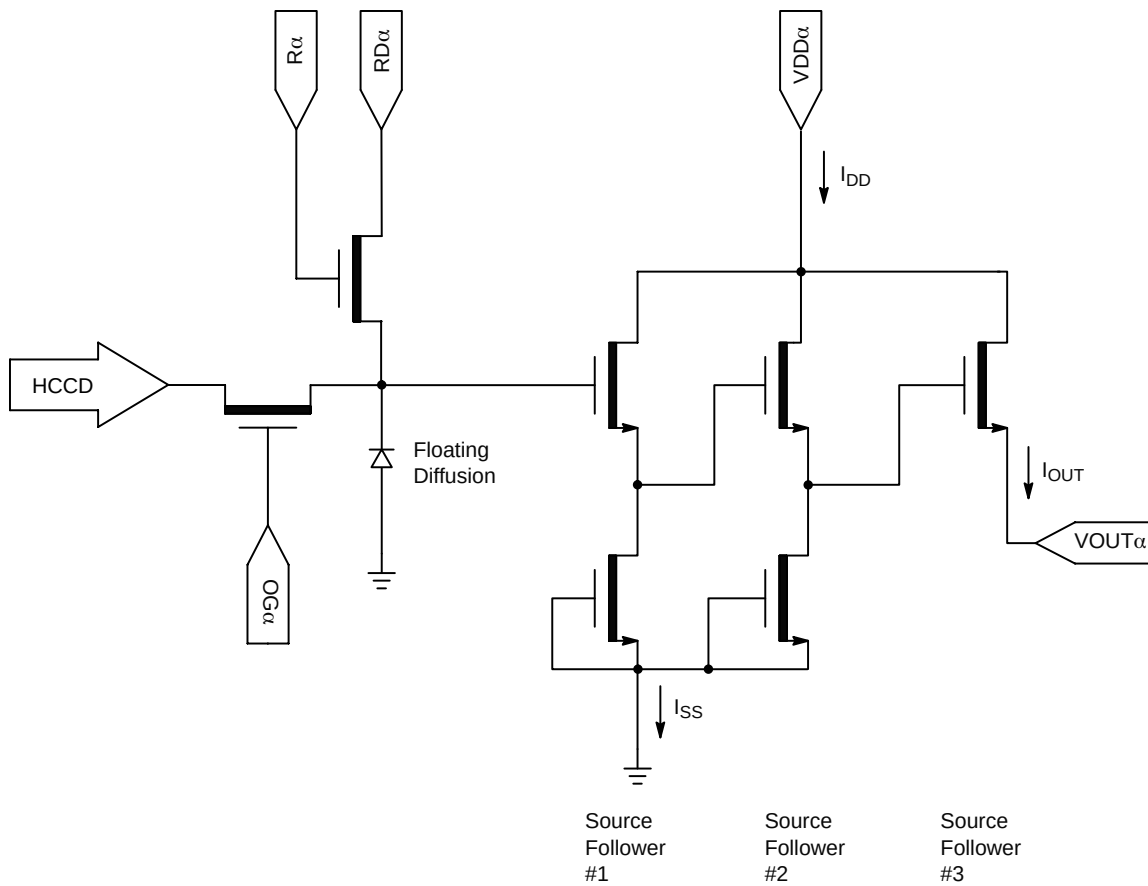

Figure 21. Output Amplifier
- The maximum DC current is for one output. $I_{DD} = I_{OUT} + I_{SS}$. See Figure 21.